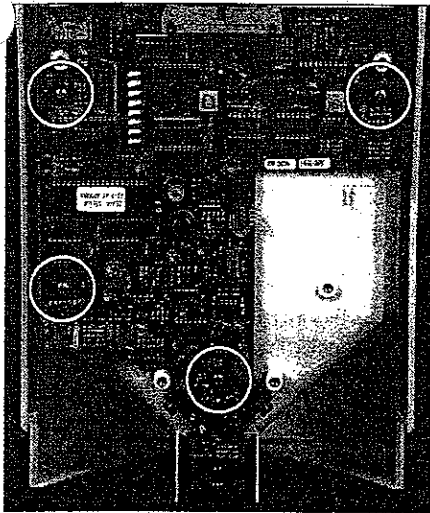

Figure 80
3. Remove the four (4) 6-32x3/16" Phillips pan-head screws which secure the main PCB to the front enclosure (see Figure 80). Disconnect the main PCB from the display PCB. Lift up and remove the main PCB.
1. Install the four (4) 6-32x3/16" Phillips pan-head screws and attach the main PCB to the front enclosure (see Figure 80).